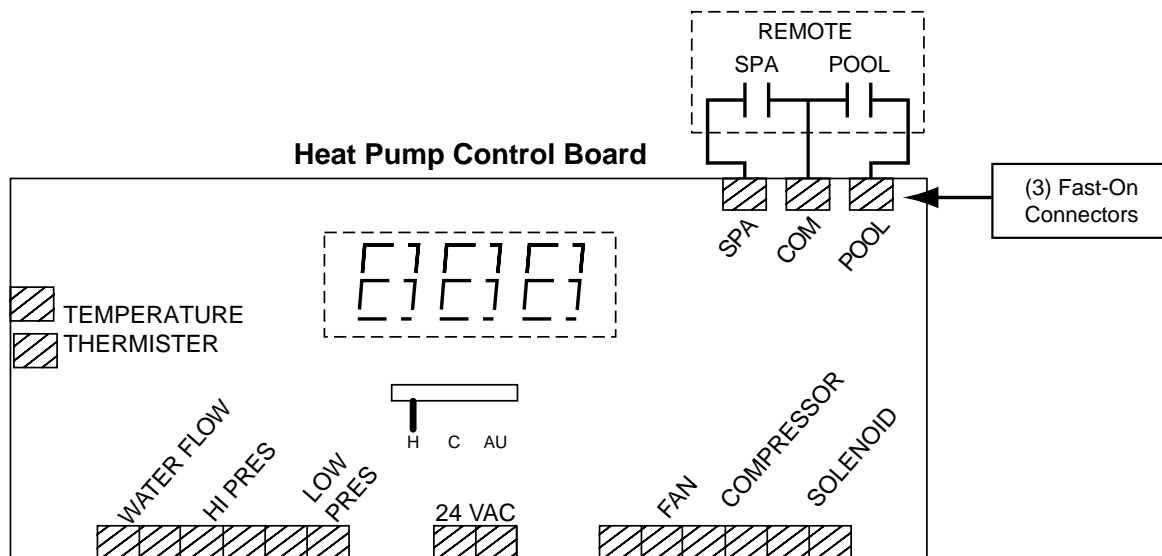

Figure 12.
9. Connect the cable from the IntelliTouch or EasyTouch Load Center to the heat pump remote control terminals using ¼ in. “Fast-On” Spade connectors, see Figure 12 on the previous page.